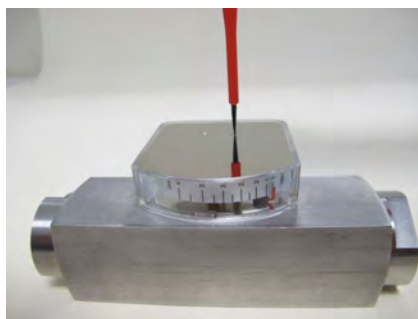

Fig. 37
1. ➔ Remove fixing screws from the display housing cover (Fig. 37)